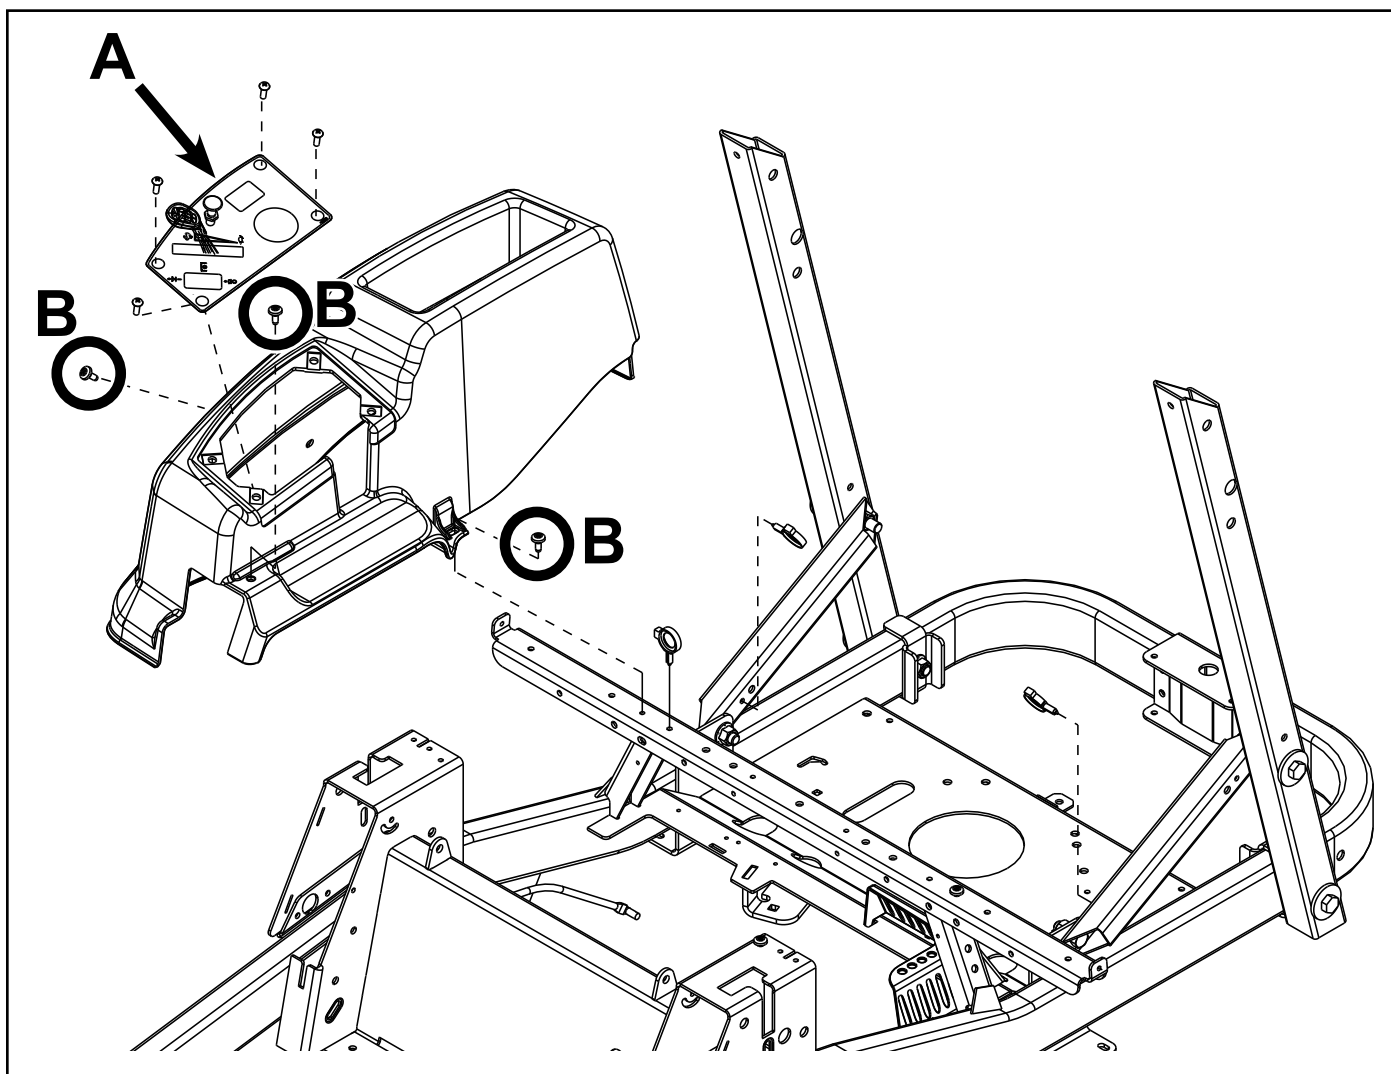

Fig. 008
2. Install the (3) screws (B) that secure the RH fender to frame and torque to specification – 7 ft-lbs. (9 Nm).
3. Position control panel (A) back onto RH fender. Install and sufficiently tighten the (4) screws that secure the control panel to the RH fender.
5. Connect battery terminals and lower seat. (Fig. 008).